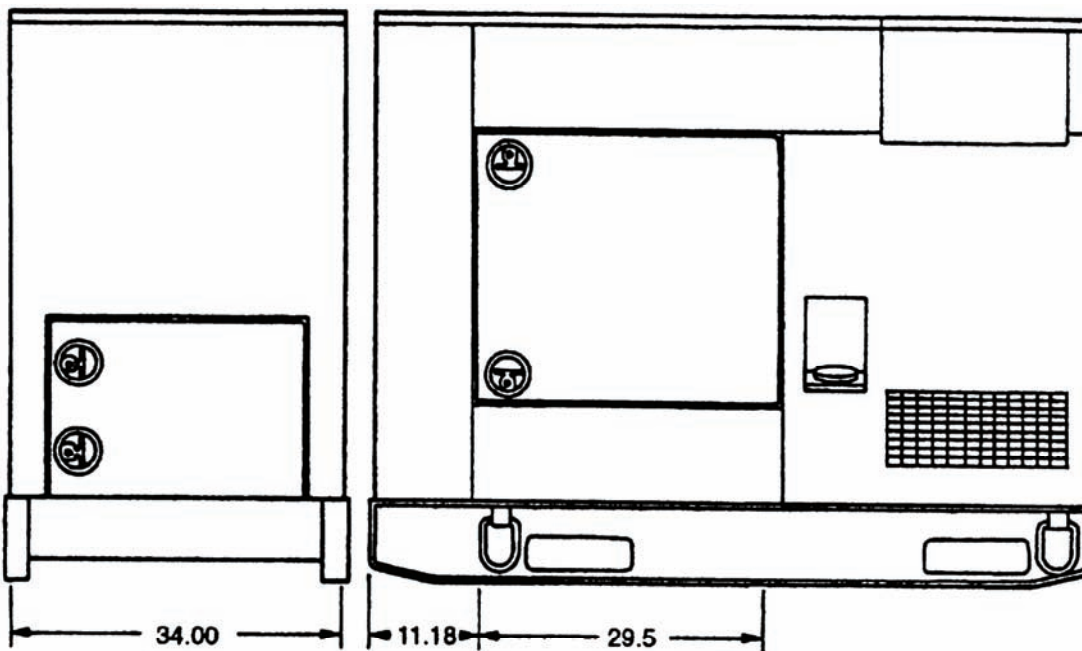

Figure 2-1. Base Mounting Measurements.
- c. Refer to Figure 2-1 for base mounting measurements.